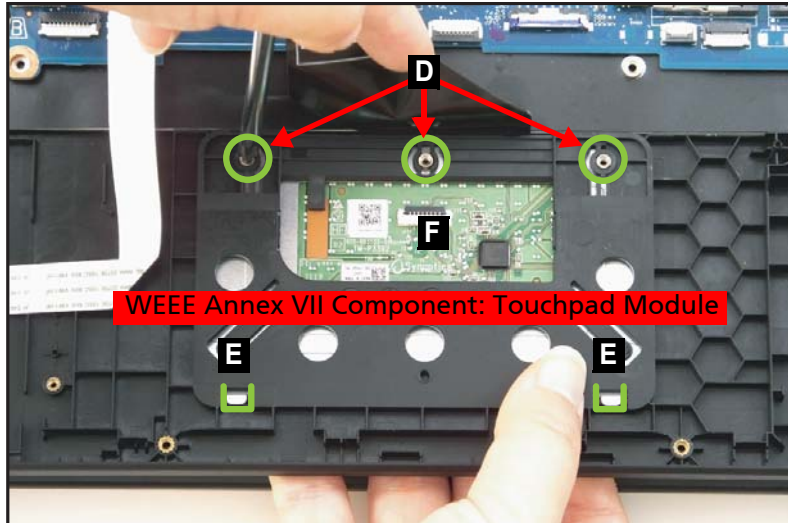

Figure 1-28. Touchpad Board Removal
5. Using the screwdriver, push the guide pins (D) firmly to release them from the top assembly (Figure 1-28).
6. With one hand is placed underneath the touchpad module, push the touchpad module slightly to disengage it from the bottom latches (E), and then remove the touchpad module (F) from the top assembly (Figure 1-28).